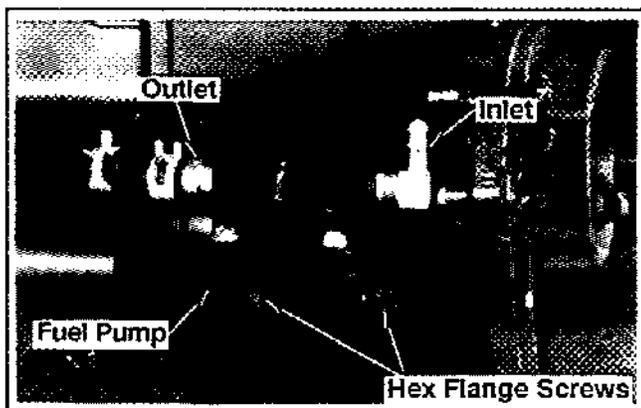

Figure 9-11. Removing Fuel Pump.
1. Disconnect the fuel line from the outlet and inlet fittings of the fuel pump. See Figure 9-11.